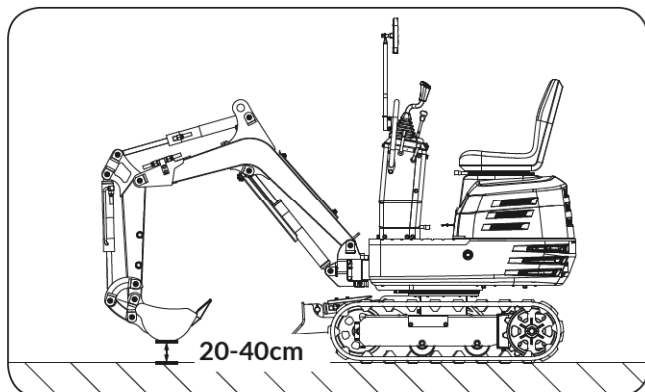

Figure 48
2. Raise the dozer and hold the bucket about 7.9 to 15.8 inch off the ground. (See **Figure 48**)